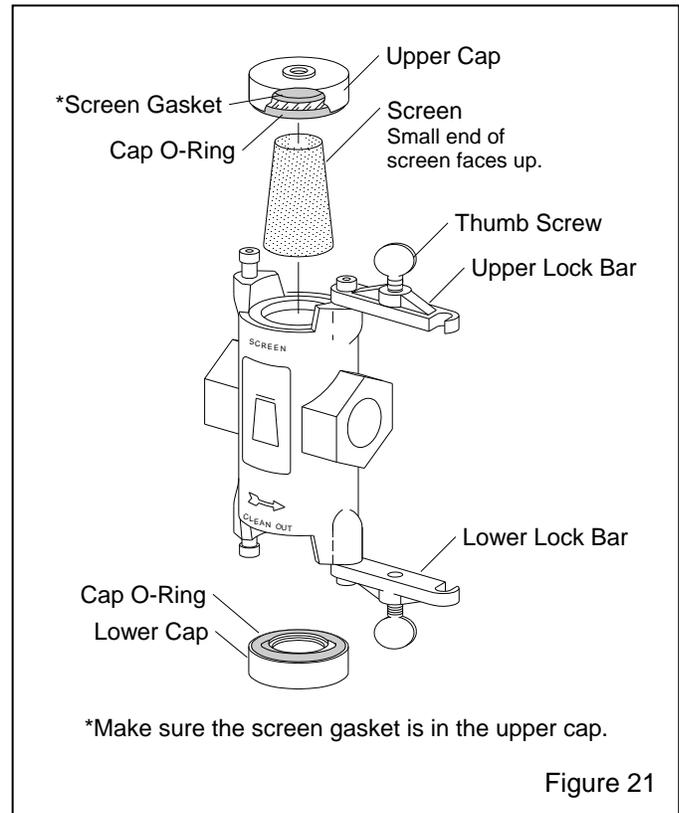

Figure 21
**6.6 Abrasive Trap - Figure 21**
**6.6.5** Install the screen in the top section. The smaller diameter end of the screen must face up as shown in Figure 21.